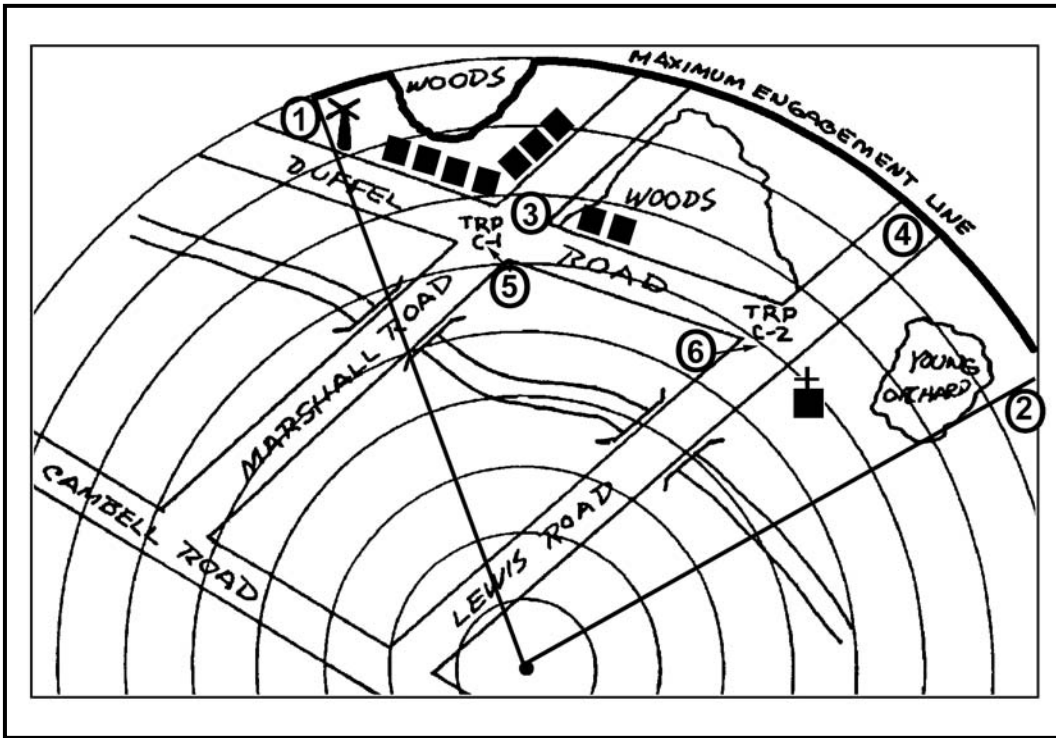

Figure D-6. Target reference points and numbers.
e. Number the TRPs from left to right. Place the number below or next to the TRP on the range card and circle the number (Figure D-6, page D-6).